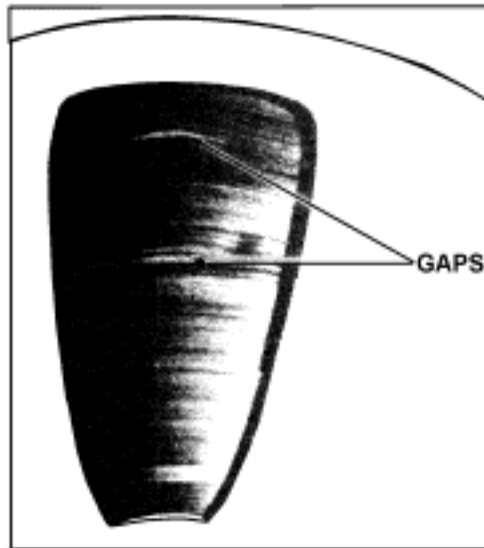

Figure 2-5.—Example of windowed tape pack.
Windows are voids or see-through air gaps in the tape winding. They happen when magnetic tape is loosely wound onto a tape reel, and especially when the loosely wound reel is later exposed to extreme heat or humidity. Figure 2-5 shows a windowed tape pack.
- Q-26. A tape pack has gaps in the tape winding as shown in figure 2-5. What causes this condition?*